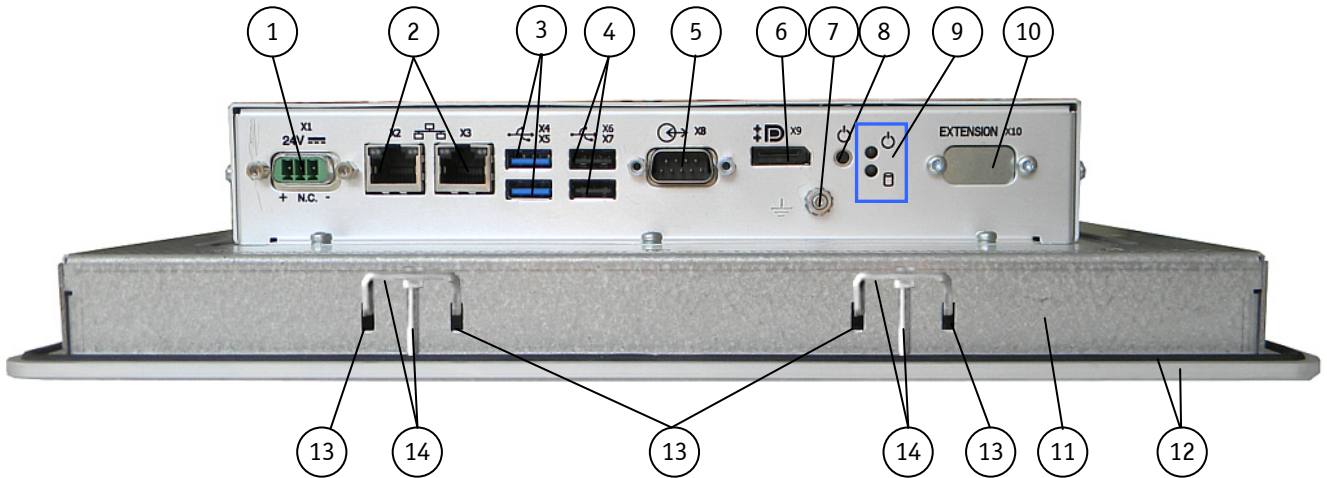
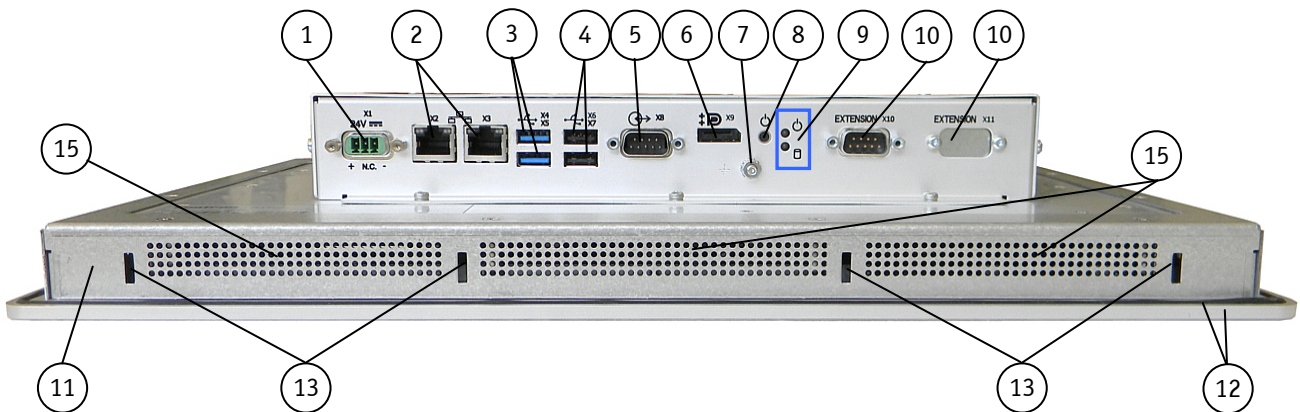
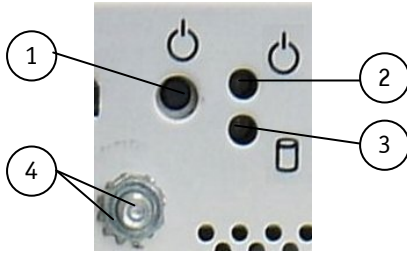

Fig. 19: Bottom view of the MC 3 104
Fig. 20: Bottom view of the MC 3 156
Fig. 22: Controls of the MC 3 system (bottom rear side)
Legend for Fig. 19 and Fig. 20:
The chassis of the MC 3/MC 3W system must be grounded by establishing a **large-area contact** between the grounding stud M4x10 (DIN7985) with 2x lock washer M4 (DIN6797) and nut M4 (Fig. 19, Fig. 20, pos. 7, and Fig. 22, pos. 4), and an appropriate grounding connection point. The minimum cross section of the grounding conductor is 1mm² (AWG 18).
The power button (Fig. 19, Fig. 20, pos. 7, and Fig. 22, pos. 1) allows to power ON/OFF the system.
The power LED (Fig. 22, pos. 4) indicates the current system power state (S0, S3, S4, or S5) as shown in shown in Fig. 23. The power LED will blink red if an error condition was detected (the system is held off). The color red is reserved for error codes, only.
Refer to Fig. 22, pos. 3 for the storage drive activity LED location. Depending on the system configuration and storage drive/s activity this LED may be blinking as shown below:
These interface connectors (Fig. 19, Fig. 20, pos. 5 and Fig. 25, Fig. 26 pos. 2) are provided as RJ45 sockets with integrated LEDs and support a 10/100/1000 Mbps data transfer rate.
The system is equipped at the bottom side (rear) with two USB 2.0 and two USB 3.0 interface connectors (Fig. 19, Fig. 20, pos. 3, pos. 4 and Fig. 25, Fig. 26 pos. 3, pos. 4). These connectors provide connections for USB-compatible devices.
An external (digital) monitor can be plugged into this interface (Fig. 19, Fig. 20, Fig. 25 and Fig. 26 pos. 6).
This RS232 connection (marked as COM1) (Fig. 19, Fig. 20, pos. 4 and Fig. 25, Fig. 26 pos. 5) are available as 9-pin D-SUB connectors (female) and provides connection (RS232) for serial devices.
If one of the optional interfaces of your system is an RS422/485 serial interface (Fig. 19, Fig. 20, Fig. 25 and Fig. 26 pos. 1) it is available as 9-pin D-SUB connector (female). The interface can be configured via an on-board DIP switch (SW1) for RS422 or RS485 serial communication.